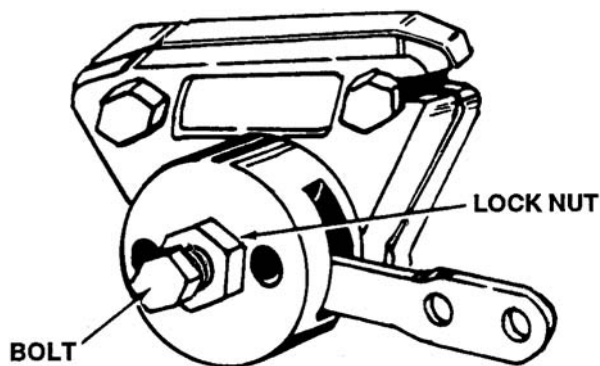

Figure 6-149. Brake Adjustment 800 Series
1. Loosen lock nut. See Figure 6-149..